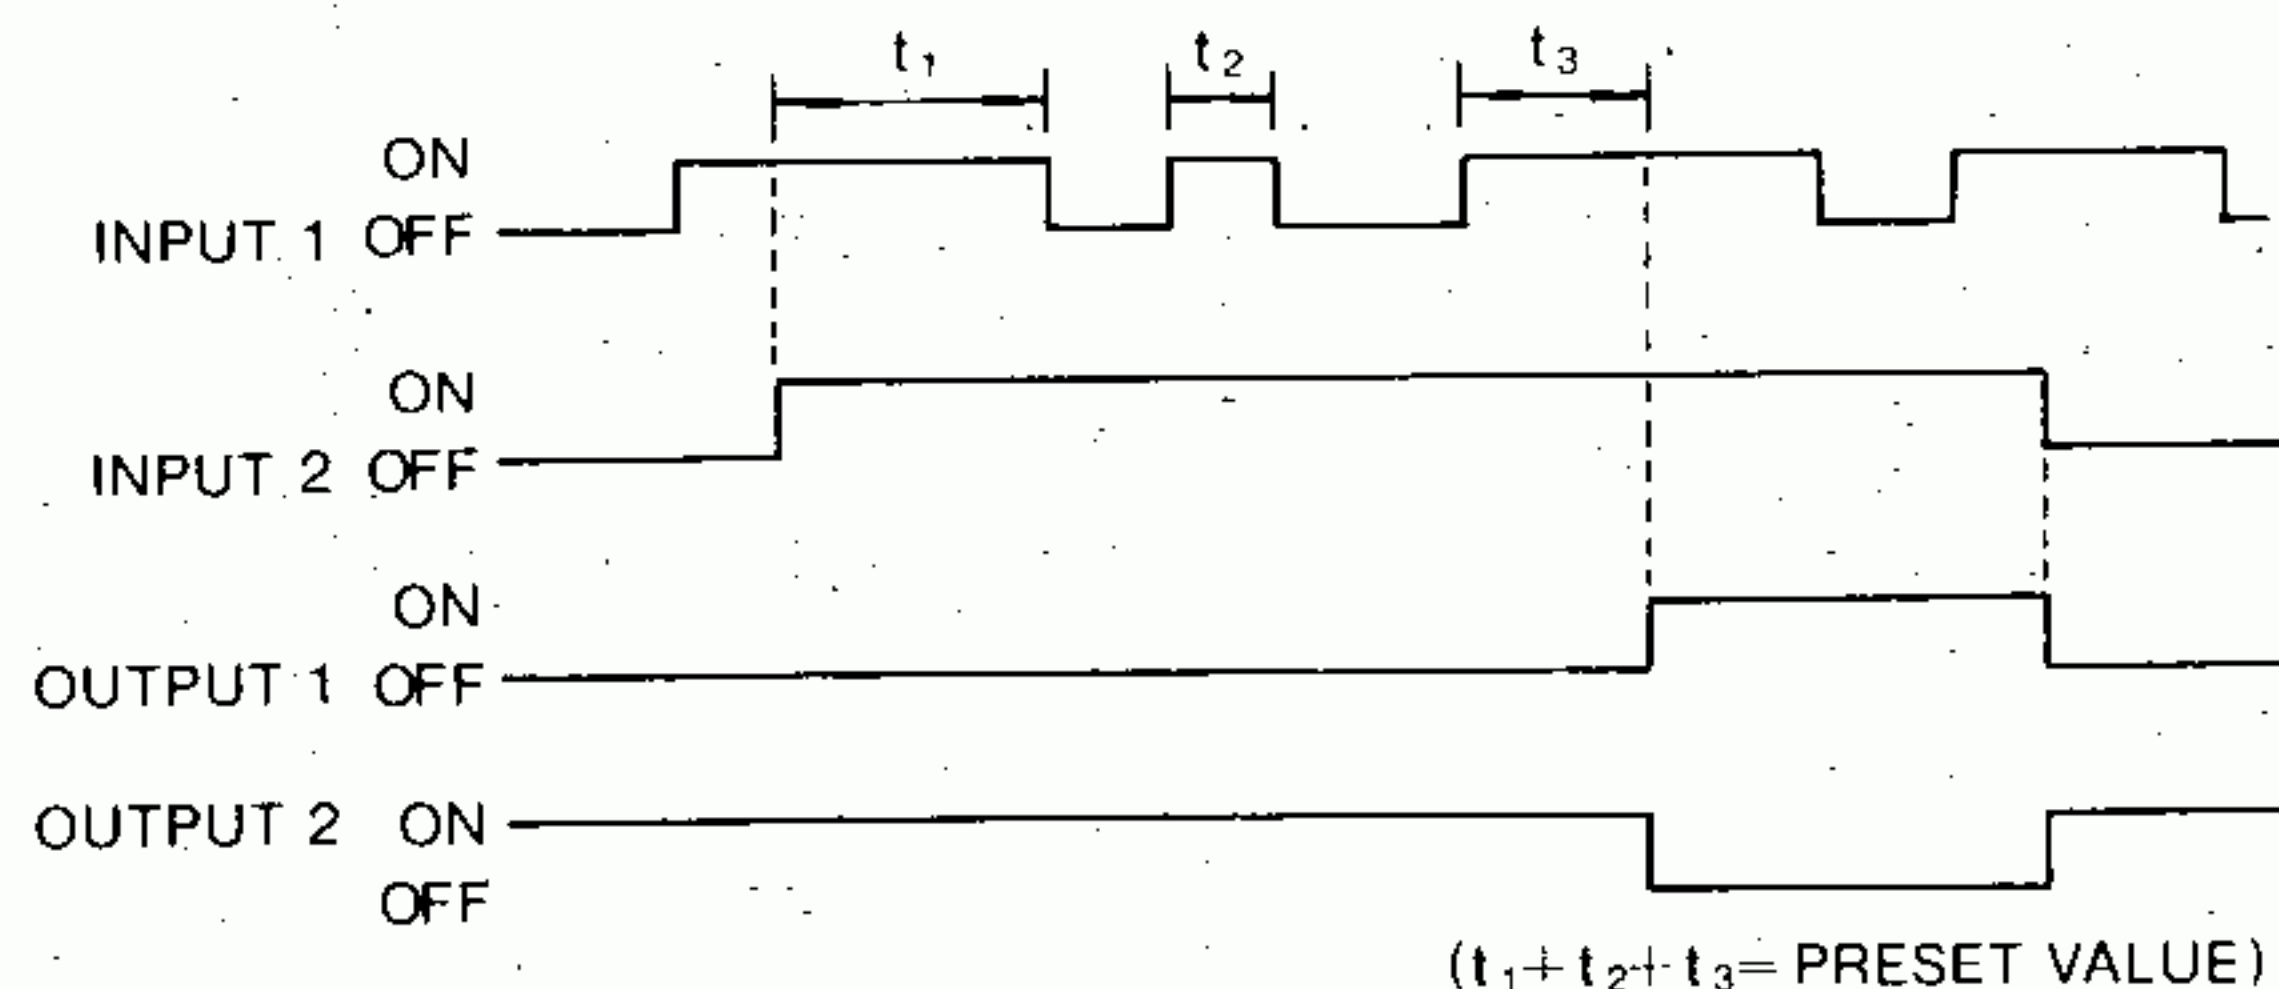

Fig. 5.14 Timer Operation
Fig. 5.14 and Table 5.8 show the timing chart and operation of the timer.
- When the current value is equal to the preset value (10), the timer stops and output 1 (coil 00020) is turned on and output 2 (coil 00021) off.
- If input 2 is ON and input 1 is cycled ON-OFF-ON-OFF, the time intervals while input 1 is ON are added. See Fig. 5.14.